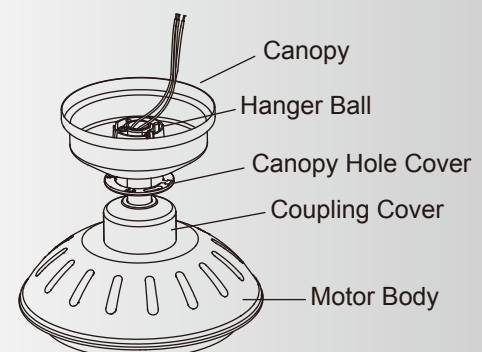

Fig. 8
Step 4. Slip the coupling cover, canopy hole cover and canopy onto the downrod. Carefully reinstall the hanger ball onto the downrod. Make sure the cross pin is in the correct position and the set screws are tight and the wires are not twisted. (Fig. 8)